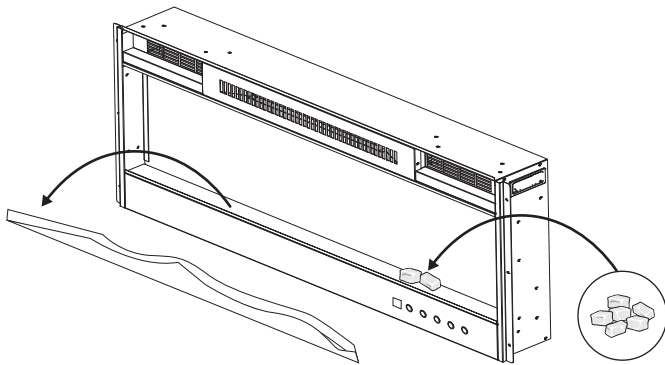

Figure 6
- I. If decorative crystal media is preferred, carefully remove the log media, cover and store the log media in a safe place. Install the decorative crystals by placing them on the tray inside the fireplace. [Figure 6]